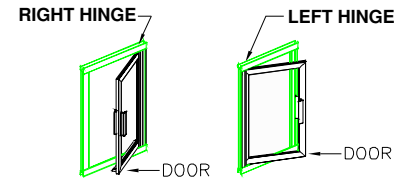

figure 3
4. Reposition Wall Jamb (B) as before and secure Jamb to walls using the six(6) 1-1/4" Installation Screws (K) provided (3 per jamb).
5. Decide from which side your Door Assembly (D) is to hinge (left or right, your choice) see figure 3. Insert the Door Assembly's Hinge Post (c1) into the Wall Jamb from which it is to hinge. Now, insert the Strike Post (D) into the other Wall Jamb (see exploded view - sheet 1). Magnet on door should face toward interior of enclosure, while magnet on Strike Post should face toward the exterior.